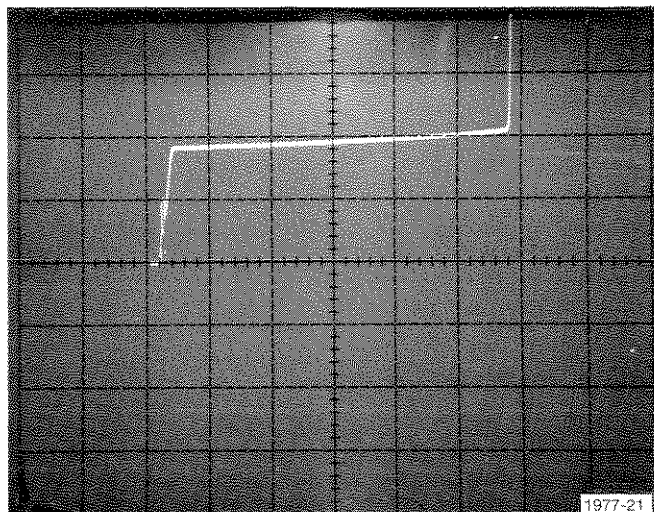

Fig. C-3. + Input bias current display.
b. Check that the vertical display is ≤ 3.75 divisions from graticule center (= 75 nA, see Fig. C-3). Change the VERT UNITS/DIV switch setting if better resolution is needed.